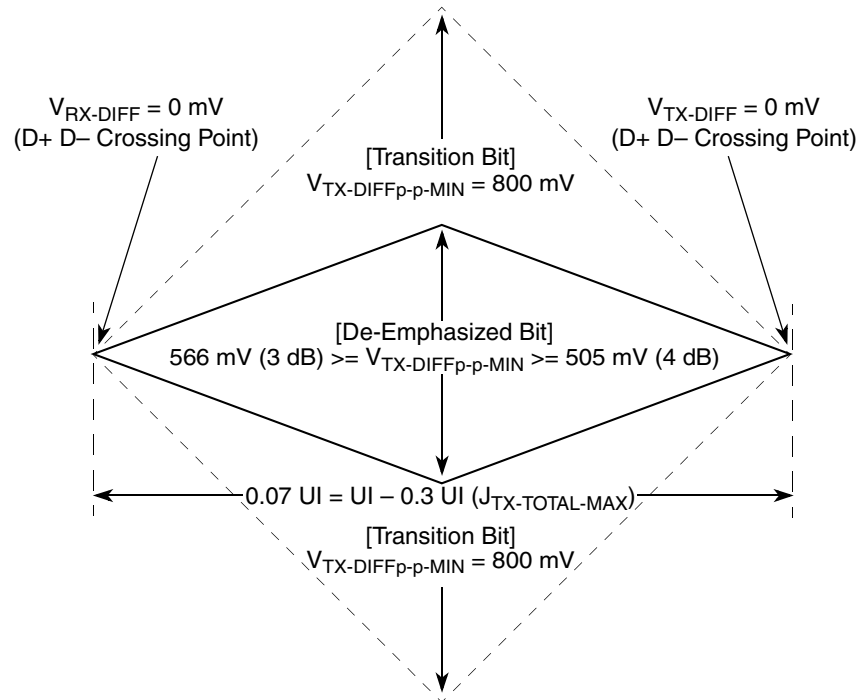
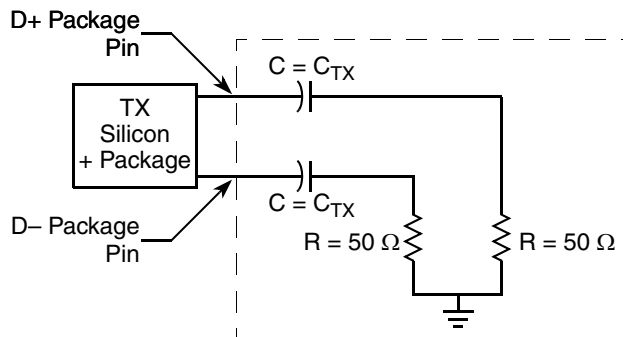

Figure 48. Minimum Transmitter Timing and Voltage Output Compliance Specifications
Figure 50. Compliance Test/Measurement Load
2. Specified at the measurement point into a timing and voltage compliance test load as shown in Figure 50 and measured over any 250 consecutive TX UIs. (Also see the transmitter compliance eye diagram shown in Figure 48.)
4. The transmitter input impedance shall result in a differential return loss greater than or equal to 12 dB and a common mode return loss greater than or equal to 6 dB over a frequency range of 50 MHz to 1.25 GHz. This input impedance requirement applies to all valid input levels. The reference impedance for return loss measurements is 50 Ω to ground for both the D+ and D– line (that is, as measured by a vector network analyzer with 50- Ω probes—see Figure 50). Note that the series capacitors C_{TX} is optional for the return loss measurement.
5. Measured between 20%–80% at transmitter package pins into a test load as shown in Figure 50 for both $V_{\text{TX-D+}}$ and $V_{\text{TX-D-}}$.
The TX eye diagram in Figure 48 is specified using the passive compliance/test measurement load (see Figure 50) in place of any real PCI Express interconnect +RX component.
- Specified at the measurement point and measured over any 250 consecutive UIs. The test load in Figure 50 must be used as the RX device when taking measurements (also see the receiver compliance eye diagram shown in Figure 49). If the clocks to the RX and TX are not derived from the same reference clock, the TX UI recovered from 3500 consecutive UI must be used as a reference for the eye diagram.
- The receiver input impedance shall result in a differential return loss greater than or equal to 15 dB with the D+ line biased to 300 mV and the D– line biased to –300 mV and a common mode return loss greater than or equal to 6 dB (no bias required) over a frequency range of 50 MHz to 1.25 GHz. This input impedance requirement applies to all valid input levels. The reference impedance for return loss measurements for is 50 Ω to ground for both the D+ and D– line (that is, as measured by a vector network analyzer with 50- Ω probes—see Figure 50). Note: that the series capacitors CTX is optional for the return loss measurement.
The RX eye diagram in Figure 49 is specified using the passive compliance/test measurement load (see Figure 50) in place of any real PCI Express RX component.
Note: In general, the minimum receiver eye diagram measured with the compliance/test measurement load (see Figure 50) is larger than the minimum receiver eye diagram measured over a range of systems at the input receiver of any real PCI Express component. The degraded eye diagram at the input receiver is due to traces internal to the package as well as silicon parasitic characteristics which cause the real PCI Express component to vary in impedance from the compliance/test measurement load. The input receiver eye diagram is implementation specific and is not specified. RX component designer must provide additional margin to adequately compensate for the degraded minimum receiver eye diagram (shown in Figure 49) expected at the input receiver based on some adequate combination of system simulations and the return loss measured looking into the RX package and silicon. The RX eye diagram must be aligned in time using the jitter median to locate the center of the eye diagram.
The reference impedance for return loss measurements is 50. to ground for both the D+ and D- line (that is, as measured by a vector network analyzer with 50-Ω probes—see Figure 50). Note that the series capacitors, CTX, are optional for the return loss measurement.
The AC timing and voltage parameters must be verified at the measurement point, as specified within 0.2 inches of the package pins, into a test/measurement load shown in Figure 50.